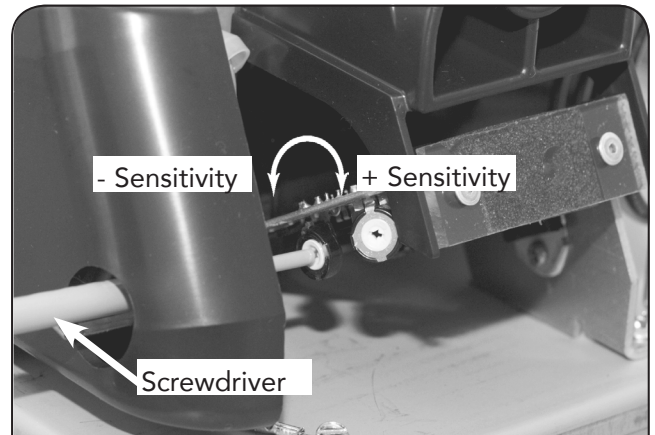

FIGURE 3 - ADJUSTING SENSITIVITY
7. **Adjusting Sensitivity** - The sensor is adjusted at the factory to turn on when hands are 4-6 inches away from the bottom of the dryer. To INCREASE SENSITIVITY turn the pot CLOCKWISE up to 1/3 TURN MAX. To DECREASE SENSITIVITY turn the pot COUNTERCLOCKWISE up to 1/3 TURN MAX. See Figure 3.
8. **Carefully** replace the cover using (2) tamper-proof screws supplied. Apply a bead of caulk around edges of cover to wall.
Check electrical service, circuit breaker. Make sure proper voltage is being supplied to the dryer. Check for loose or disconnected terminals to sensor. **INCREASE** sensitivity (**FIGURE 3**) by inserting a flat-blade screwdriver through the hole and into the pot to **CAREFULLY** turn the adjustment pot located on the sensor **CLOCKWISE 1/3 turn MAX**. If necessary, replace sensor.